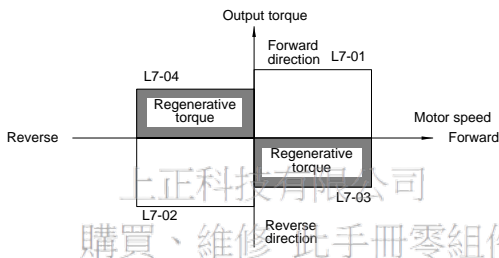

Fig 7.5 Torque Limit Function
- Figure 7.5 shows the relationship between each constant and the output torque.